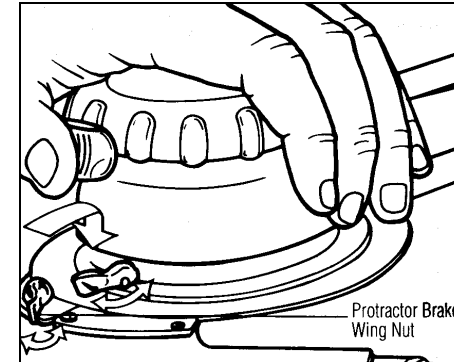

Figure 8
B. Intermediate Angles (Figure 8)
To set off an angle other than a multiple of 15 degrees, first disengage the indexing mechanism by pressing the indexing thumb-piece, moving it vertically downward, and releasing it, as indicated by the bent arrow in Fig. 8. Rotate the protractor arm with the right hand on the far end of the horizontal scale until the desired angle is indicated by the vernier. Now lock the arm by means of the protractor brake wing nut. To re-engage the indexing mechanism, press the thumb-piece, move it vertically up, and release it.